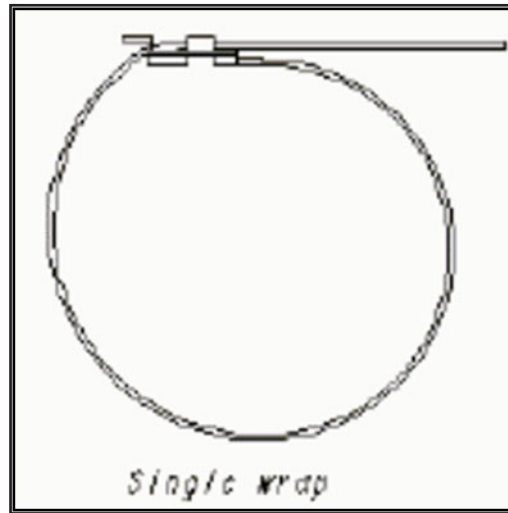

Figure 4: BAND-IT Wrap
2. Wrap BAND-IT tie around object with the locking ears up (see Figure 4).